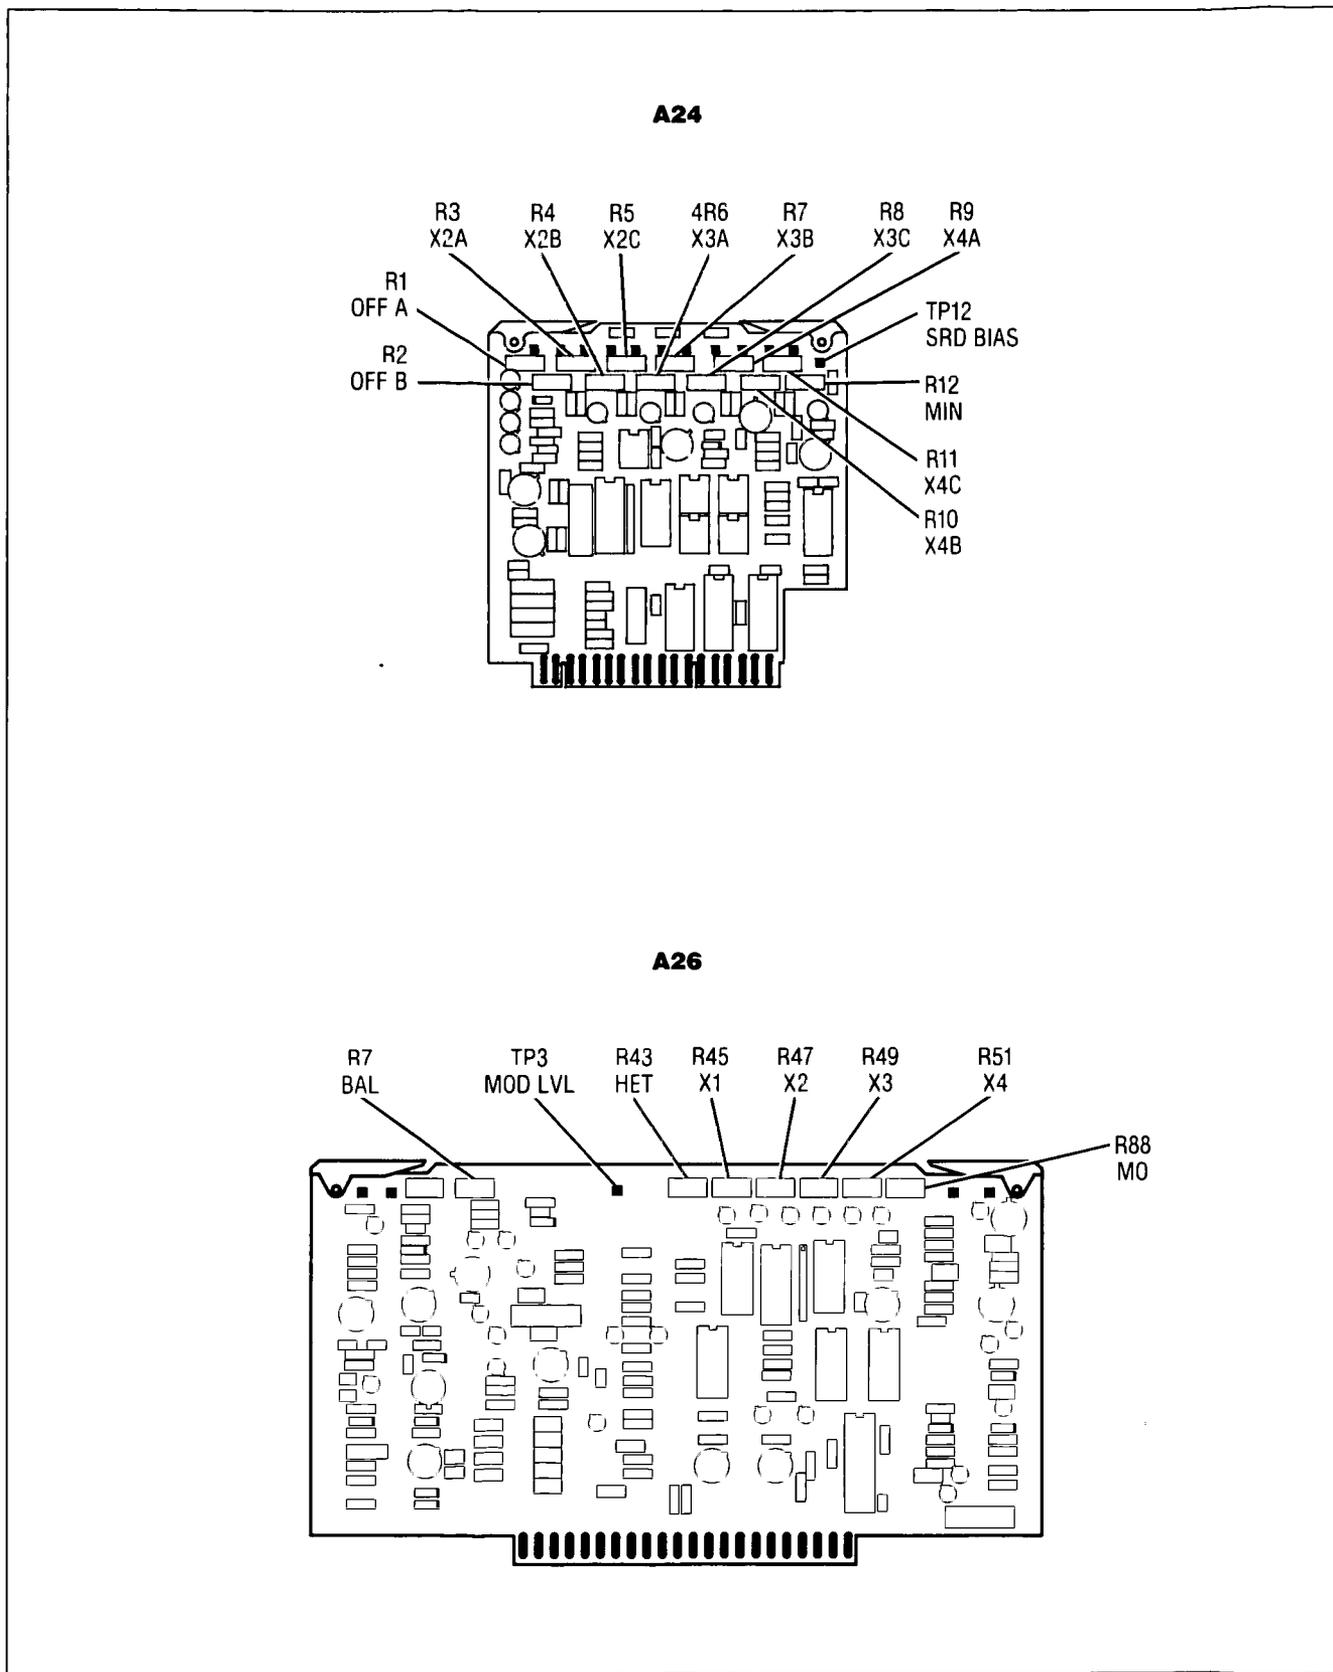

Figure 5-53. SRD Bias Adjustments on A24 and A26
1. Connect the DVM to A26TP3 (MOD LVL). Preset A26R88 (MO) fully clockwise (Figure 5-53). Turn the DUT's LINE switch ON and allow 30 minutes warm up.
3. Adjust the front panel rotary knob (RPG) for a DVM indication of 0.00 V + 3 mV, then note the indication in the POWER dBm display. Adjust A26R88 (MO) counter-clockwise to decrease the POWER dBm indication by 0.2 dB.
9. Preset A24R1 (OFF A) (Figure 5-53), A24R2 (OFF B), A24R5 (X2C), A24R8 (X3C), and A24R11 (X4C) controls fully counter-clockwise.